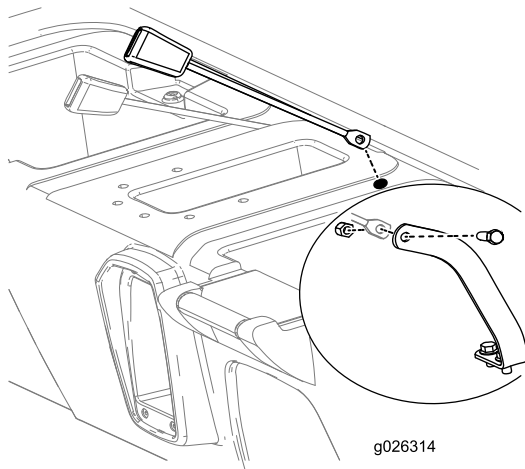

Figure 11
8. Insert the mounting side of the receiver end of each seat-belt lock assembly into one of the newly drilled holes in the seat base (Figure 11).
9. Mount the receiver end of each seat-belt assembly to each seat-belt anchor with a bolt (7/16 inch) and nut (7/16 inch) as shown in Figure 11.